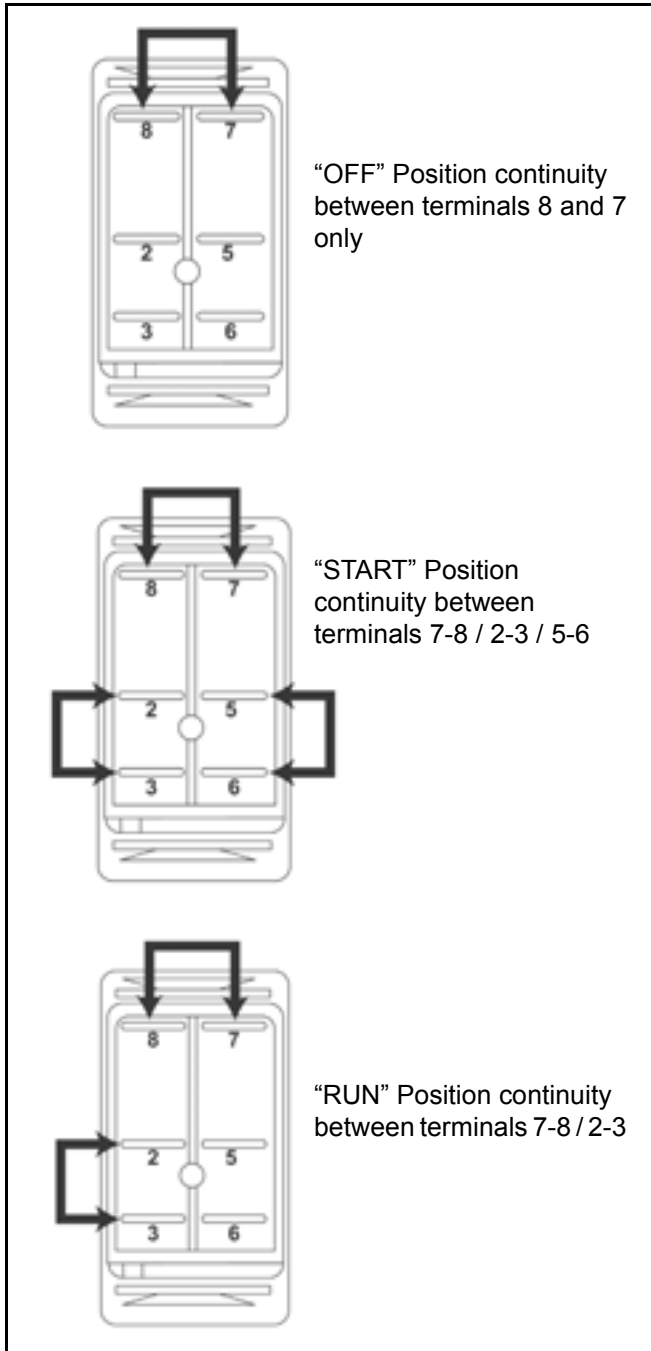

Figure 237
2. Using a VOM or test lamp, test the continuity or the terminals using the following diagrams (Figure 237).